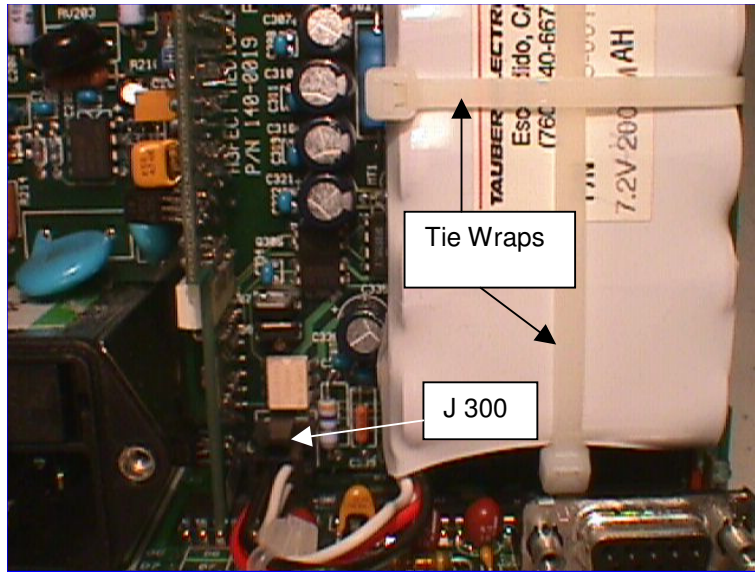

Figure 7-19 Battery and cable
3. Disconnect battery cable from PCB by depressing securing tab and lifting connector from J300 jack. (See Figure 7-19).
5. Reconnect battery cable to Power Supply PCB. (See Figure 7-19).
10. Disconnect battery cable by depressing securing tab and lifting connector from J300 jack. (See Figure 7-19).
2. Place new battery assembly in position (with cable positioned close to jack) and secure to holder with tie wraps. Be sure tie wraps are positioned as shown in Fig. 7-19 to avoid interference with case when closing the case.